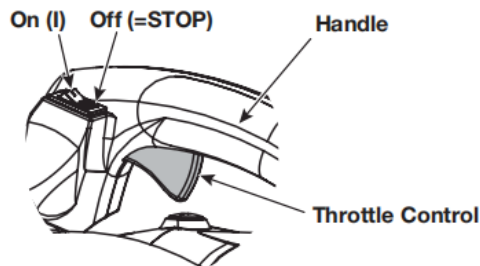

Fig. 5
c) Push the ON/OFF switch on the ON (I) position. (Fig. 5).
- b) Press and hold the ON/OFF switch in the OFF (STOP) position until the engine comes to a complete stop (Fig. 5).